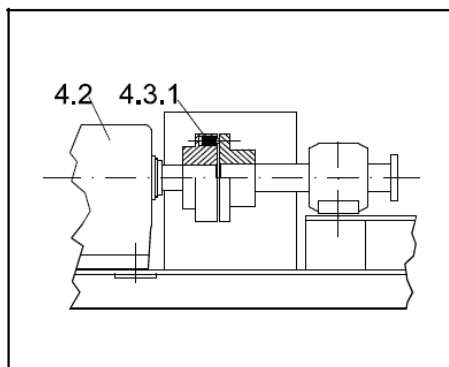

Fig. 10: Coupling
- The coupling gaskets (pos. 4.3.1, fig. 10) are worn out.
- Loosen the mounting screws on the drive (pos. 4.2, fig. 10), slide back the drive and the one half of the coupling.
- Replace the coupling gasket (pos. 4.3.1, fig. 10).